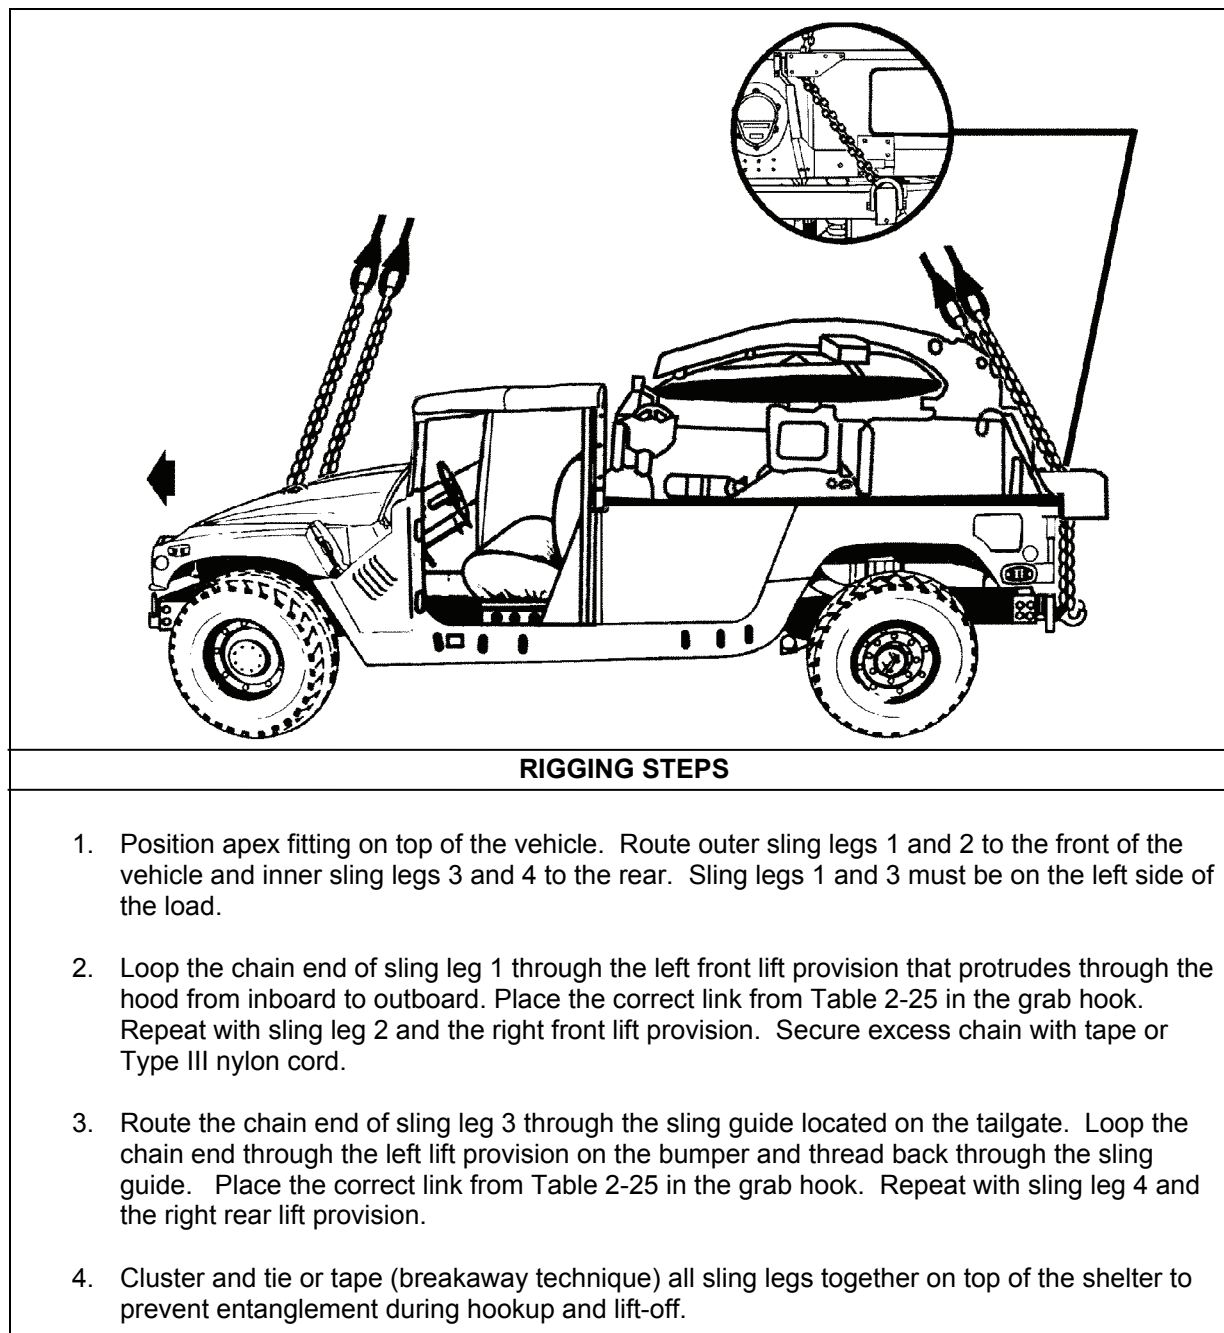

Figure 2-24. M1097A2 with Secure Mobile Anti-Jam Tactical Terminal Pallet
- **Rigging.** Rig the load according to the steps in Figure 2-24.